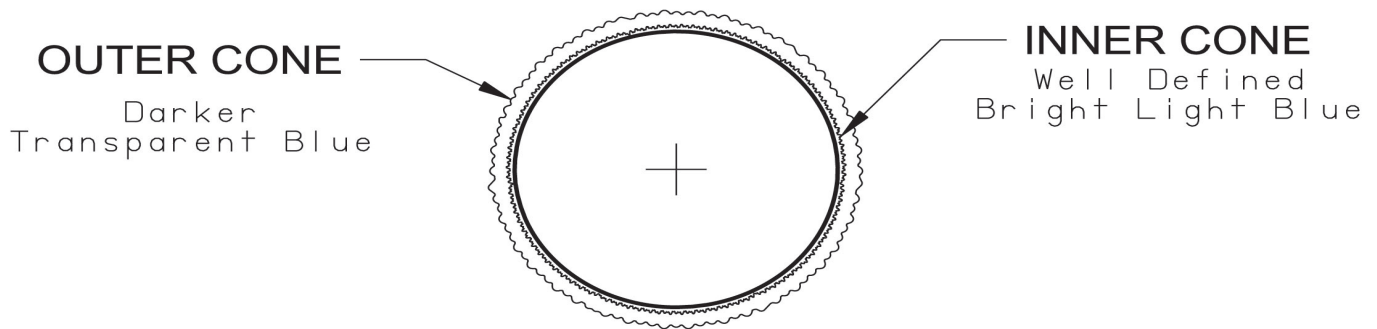

Figure 11.2: Burner Flame
14. Inspect the flame visible through the window. On high fire the flame should be stable and mostly blue (Figure 11.2). No yellow tipping should be present; however, intermittent flecks of yellow and orange in the flame are normal.